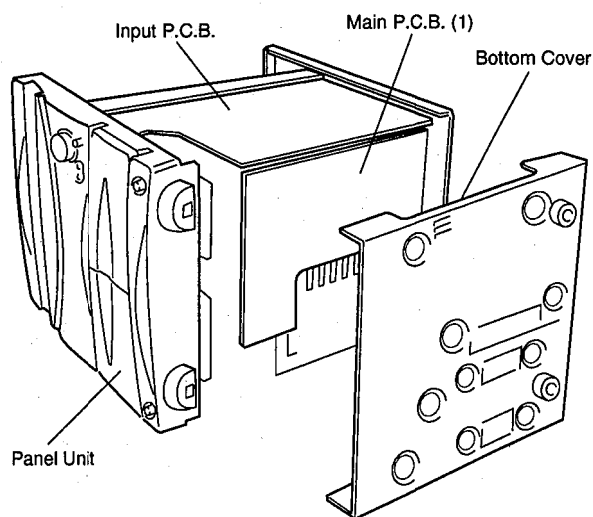

Fig. 9
- e. Place the main unit on its left side (viewed from the front) and remove the Bottom Cover in Fig. 9.